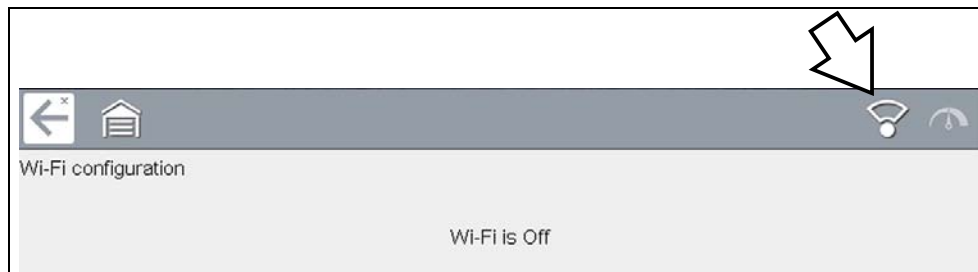

Figure 15-1 Wi-Fi Icon (shown off)
- Select the **Wi-Fi icon**  to turn Wi-Fi on (Figure 15-1).